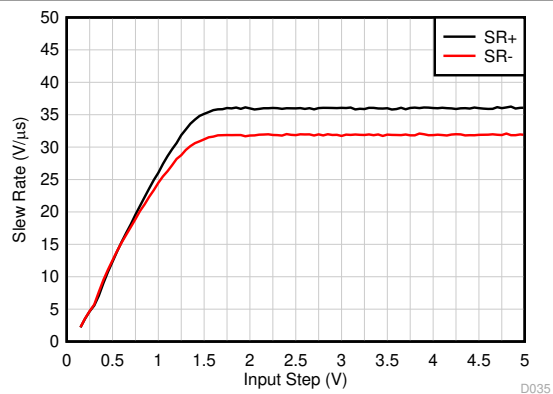

Figure 5-15. Slew Rate vs Input Step Voltage
- (1) Specified by characterization only.
- (2) Disable time (t_{OFF}) and enable time (t_{ON}) are defined as the time interval between the 50% point of the signal applied to the SHDN pin and the point at which the output voltage reaches 10% (disable) or 90% (enable) of its final value.
- (3) See Figure 5-15 for more information.